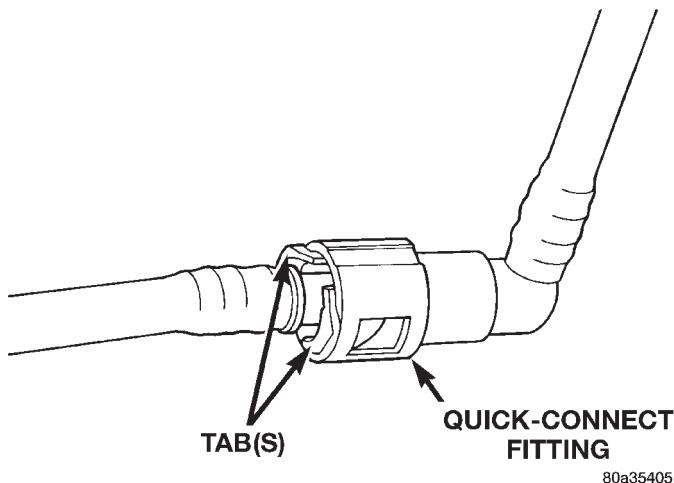

Fig. 18 Typical Two-Tab Type Quick-Connect Fitting
This type of fitting is equipped with tabs located on both sides of the fitting (Fig. 18). These tabs are supplied for disconnecting the quick-connect fitting from component being serviced.
- (1) Perform fuel pressure release procedure. Refer to Fuel Pressure Release Procedure in this group.
- (2) Disconnect negative battery cable from battery.
- (3) Clean fitting of any foreign material before disassembly.
- (4) To disconnect quick-connect fitting, squeeze plastic retainer tabs (Fig. 18) against sides of quick-connect fitting with your fingers. Tool use is not required for removal and may damage plastic retainer. Pull fitting from fuel system component being serviced. The plastic retainer will remain on